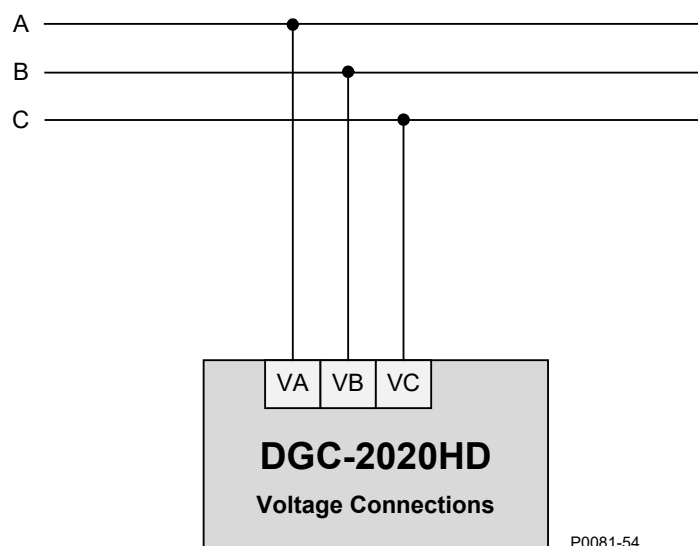

Figure 3-3. 3-Phase Delta Connections
- Three-phase delta Figure 3-3
Figure 3-3 illustrates typical three-phase delta connections for all DGC-2020HD bus voltage sensing connections: Generator, Bus 1, and Bus 2. Use the terminal numbers listed below for connecting the desired bus type. Refer to the *Terminals and Connectors* chapter for rear panel terminal numbering.